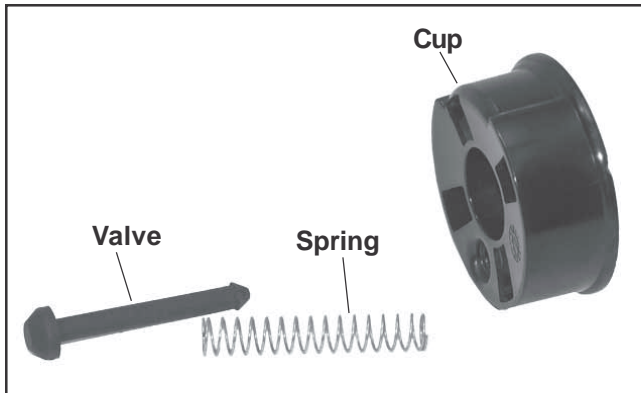

Figure 8-24. Rubber Valve and Spring Removed from Cup.
- c. Remove the rubber valve and spring from the cup. See Figure 8-24.